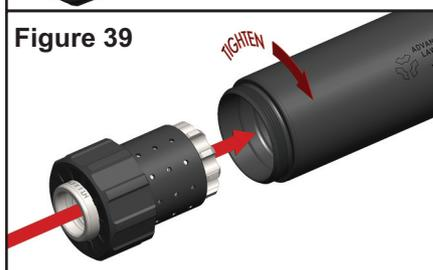

Figure 39
3. Thread the reassembled piston housing assembly onto the exposed threads on the rear of the interface on the main tube body. See Figure 39.
4. Thread the reassembled piston housing assembly onto the exposed threads on the rear of the interface on the main tube body. See Figure 39.